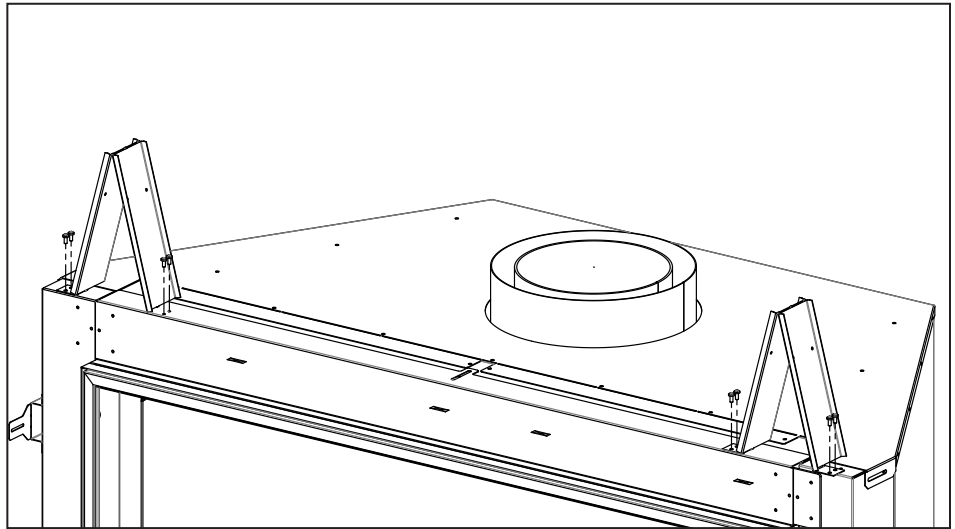

Figure 31: Top Standoff Install
2. Install top standoffs into position using supplied T-20 screws (see Figure 31).